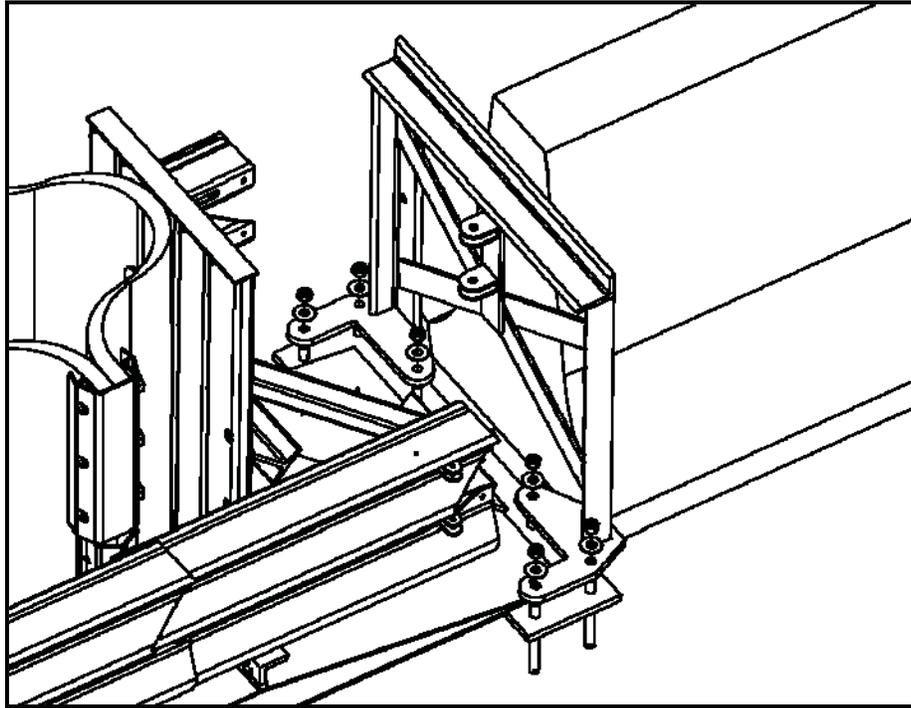
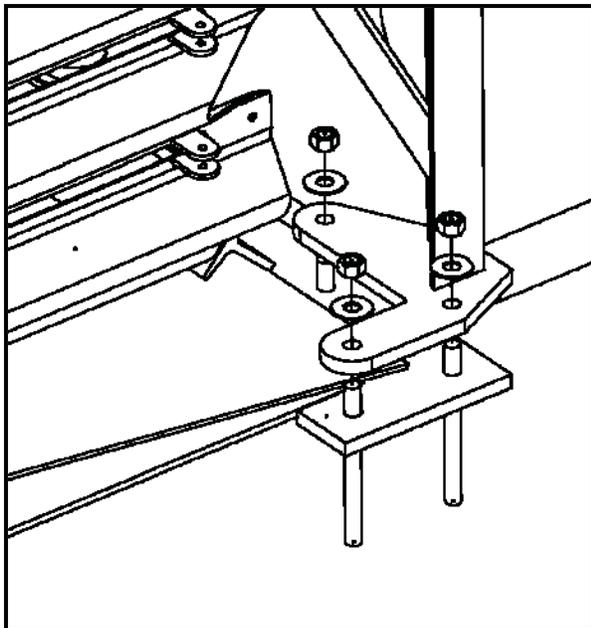
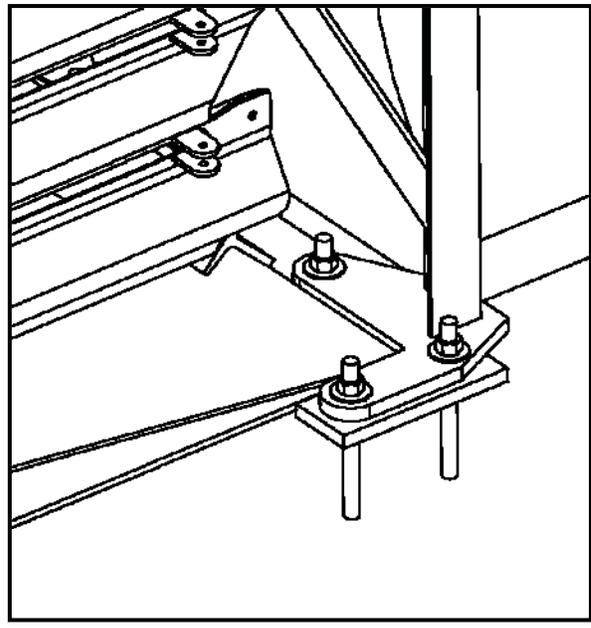

Figure 16: Standing Brace Bolt Installation to Uni-Base Platform
Figure 17: Standing Brace Hardware Attachment
Figure 18: Installed Standing Brace
Remove the three rear left and three rear right anchor bolts on the Compressor. Replace with the longer anchor bolts (34). Install the Transition Standing Brace (1) to the Compressor as shown in Figure 16. Secure the Transition Standing Brace using washers (35) and nuts (36) seen in Figure 17. The installed Transition Standing Brace (1) can be seen in Figures 18 below.